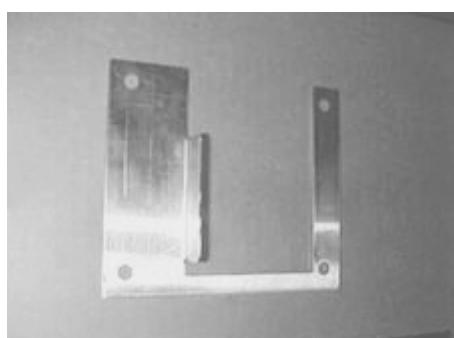

Figure 10. Ice Diverter for ED/DF models
Consists of an ice diverter and an agitator (Figs. 10 & 11)
Consists of an ice diverter and an ice slide (Figs. 10 & 12)
- Consists of two ice diverters and two agitators (Figs. 10 & 11)